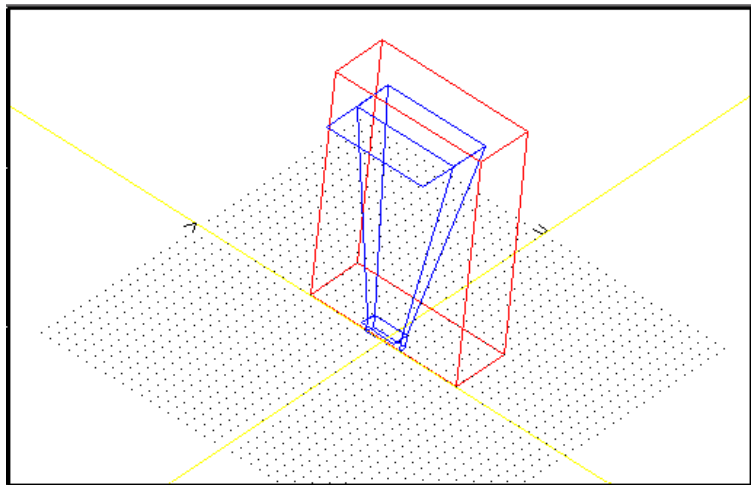

Figure 30 Slice of Horn Antenna Along the YZ Plane
- 3 Select the *YZ plane* from the Plane List. Then click **OK**. The horn structure is sliced along the YZ plane, as in Figure 30.